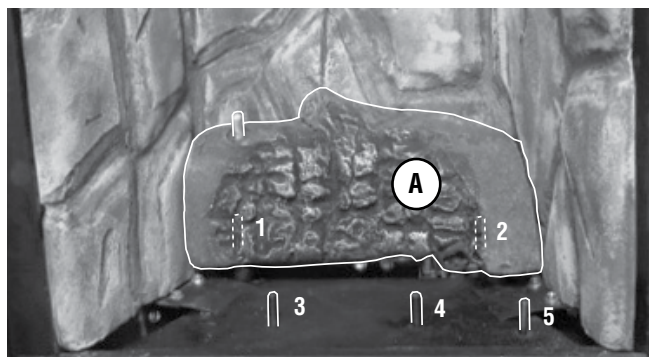

Figure 42 - Install Rear Log (A)
1. **Place the rear log (A) as shown in Figure 42.** Position the 2 holes on the bottom of the log over the corresponding locating pins (#1 & #2) and against the log support bracket. See **Figures 41 and 42** for pin and rear bracket locations.